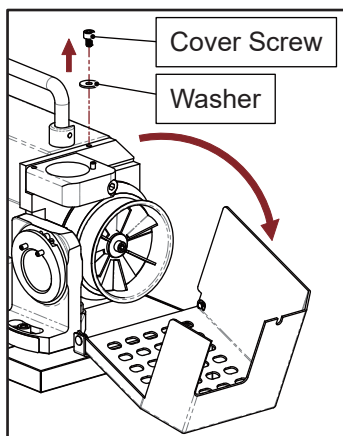

Fig. 10-2
- ③ Loosen the screw from the grinding wheel cover to open the cover. (Fig. 10-2)